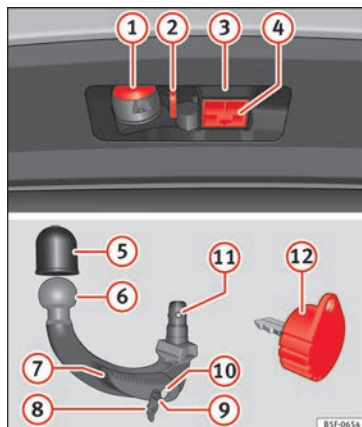

Fig. 225 Towing bracket device support / detachable ball joint / key
Key to »» Fig. 225
- Remove the hook housing cap (4) » Fig. 225 downwards.